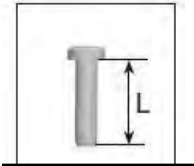
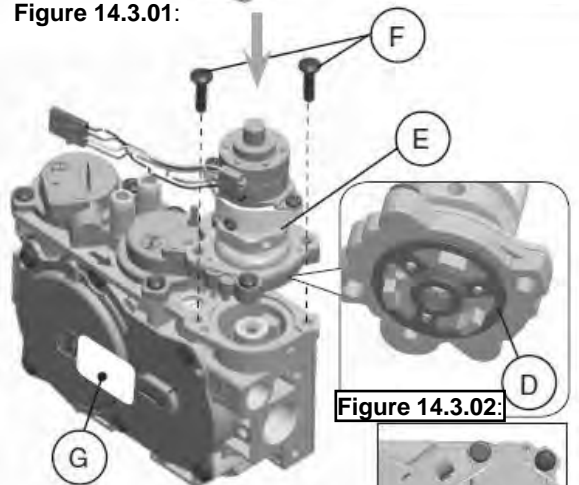
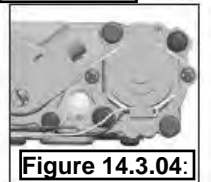

Figure 14.3.05:
Figure 14.3.03:
Figure 14.3.04:
4. Install the new STEPPER MOTOR pressure regulator assembly, as shown in **Figure 14.3.03** and **Figure 14.3.04**. Use the supplied screws (F), M4 x 0.7 threaded, length of thread  $L = (16 \text{ mm} + 0 - 0.5 \text{ mm})$ , steel material, resistance class 8.8 (see **Figure 14.3.05**).
6. Install the enclosed identification label (G) to the valve body where it can be easily seen.